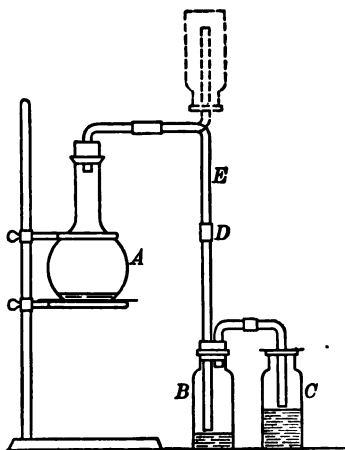

FIG. 38
**78. Preparation of ammonia.** *a.* Dissolve 1 g. of ammonium chloride in a little water in a test tube and heat to boiling. Can you detect the odor of ammonia? Add a few drops of a solution of sodium hydroxide. Is the ammonia liberated (R)? Moisten a small strip of red litmus paper and hold it at the mouth of the tube. Note the result. Hold the end of a glass rod moistened with concentrated hydrochloric acid in the mouth of the tube. What is formed (R)?
*b. Usual laboratory method.* This differs from the method used in *a* only in the fact that the less expensive calcium hydroxide (slaked lime) is substituted for sodium hydroxide. Fig. 38 shows the form of apparatus used. *A* represents a 250-cc. flask; *B* and *C* are 250-cc. wide-mouthed bottles partly filled with water. Notice that the glass tubes extending into the bottles do not quite touch the surface of the water. Why? Two *dry* bottles will also be needed for collecting some of the gas.
**80. Nitrides.** Connect the delivery tube *E* (Fig. 38) with the hard-glass tube *C* (Fig. 26). In the middle of the tube place a shallow layer of magnesium powder about 2 cm. in length. Conduct ammonia through the tube, and when the air has been displaced, heat the tube under the magnesium strongly until the magnesium is red hot. Then increase the current of ammonia. What change takes place in the